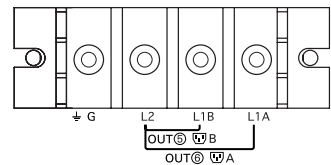

Figure 1
- (4) Run the wires to be connected through the hole in the included terminal block cover (with cable clamp and cable guard tube). (See Figure 1.)